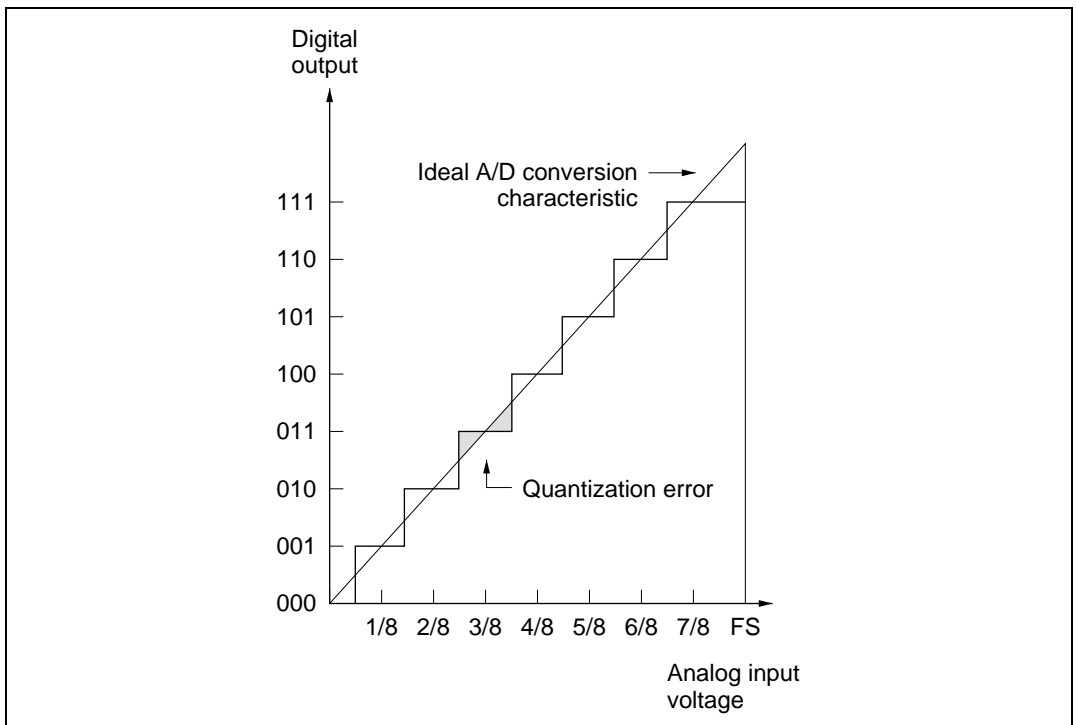

Figure 15.9 A/D Converter Accuracy Definitions (1)
- Quantization error:.....Intrinsic error of the A/D converter; 1/2 LSB (figure 15.9)